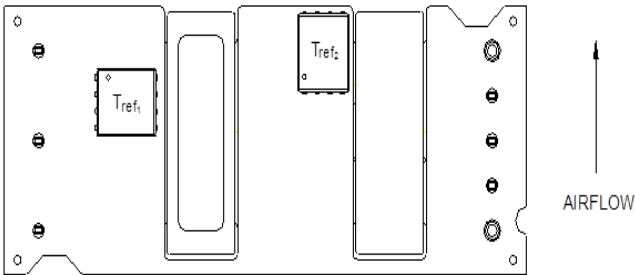
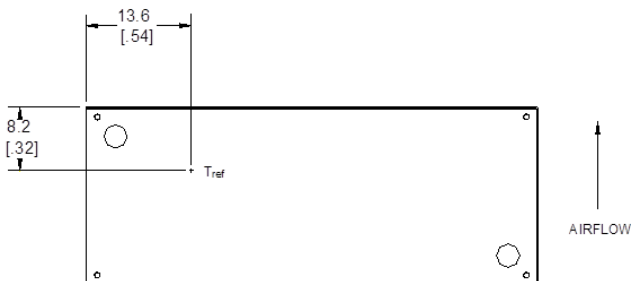

Figure 13. T_{ref} Temperature Measurement Locations for Open Frame Module.
Figure 14. T_{ref} Temperature Measurement Location for Module with Heatplate.
To provide protection under certain fault conditions, the unit is equipped with a thermal shutdown circuit. The unit will shutdown if the thermal reference point, T_{ref} , exceed 135 °C (Figure 13, typical) or 120 °C (Figure 14, typical), but the thermal shutdown is not intended as a guarantee that the unit will survive temperatures beyond its rating. The module will automatically restart upon cool-down to a safe temperature.
The thermal reference points, T_{ref1} , and T_{ref2} used in the specifications for open frame modules are shown in Figure 13. For reliable operation these temperatures should not exceed 124 °C & 121 °C respectively
The thermal reference point, T_{ref} , used in the specifications for modules with heatplate is shown in Figure 14. For reliable operation this temperature should not exceed 98°C.